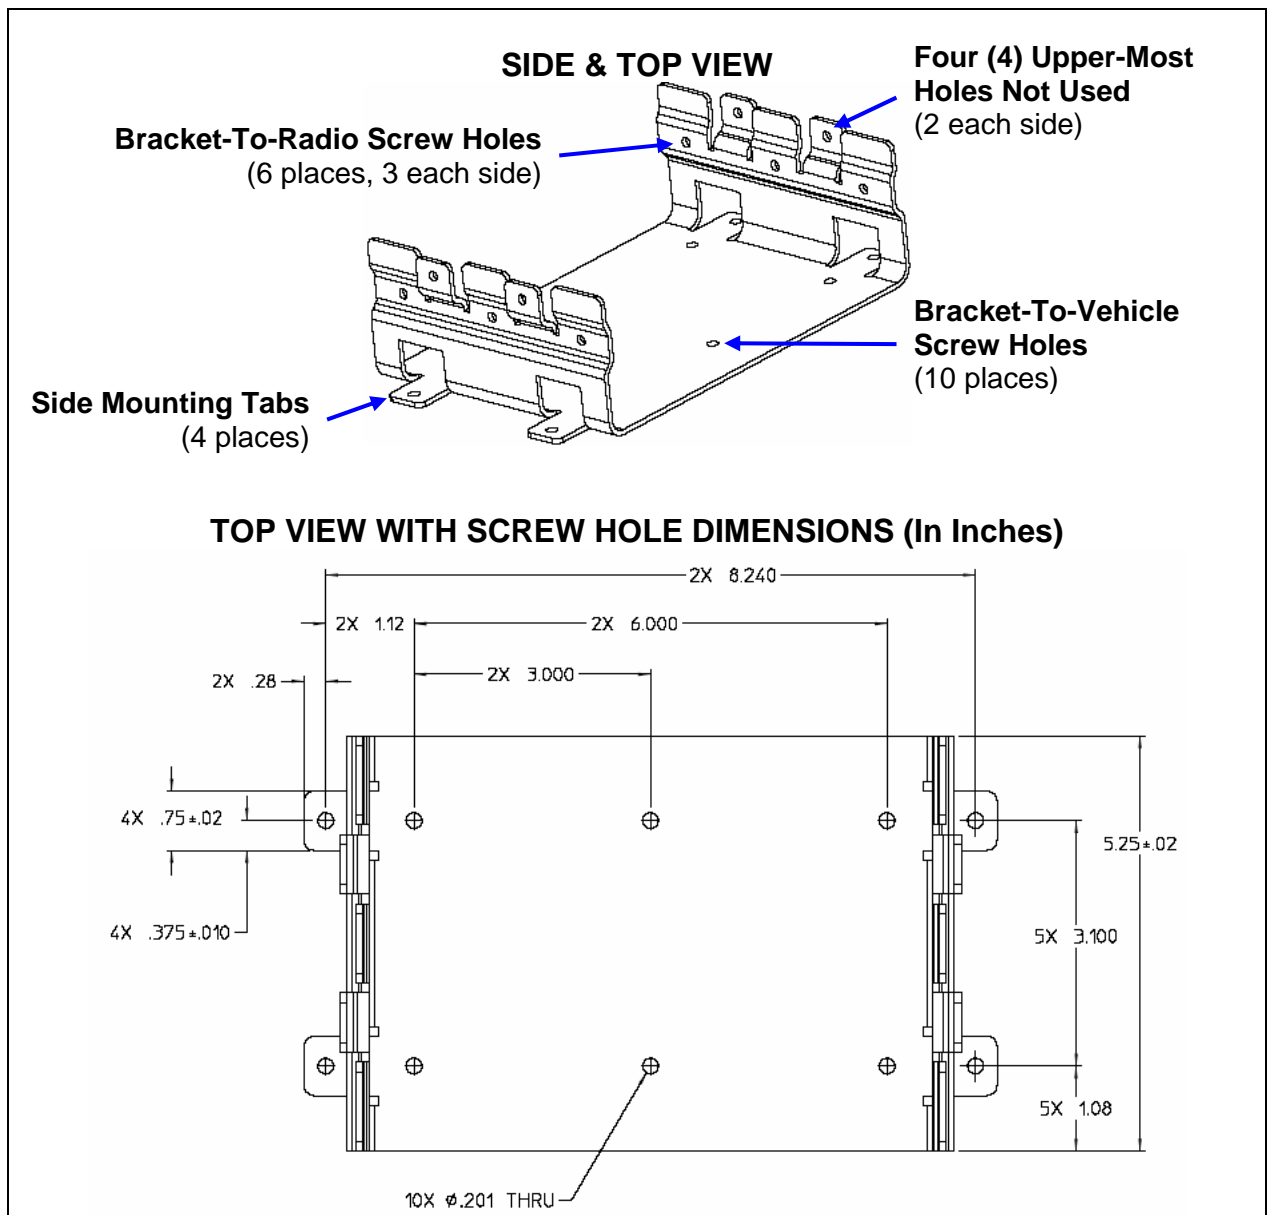

Figure 6-1: Base Bracket (Radio Not Shown)
1. Using the Base Bracket (Item 1) as a template and/or the dimensional information shown in Figure 6-1, mark and drill mounting holes into the mounting surface as required. At least six (6) screws are recommended for proper installation: Four (4) in the screw holes of the bracket's side tabs and two (2) in its center-most screw holes. If the installation prevents the installation of six screws, a minimum of four screws installed in the side tabs' holes is required.